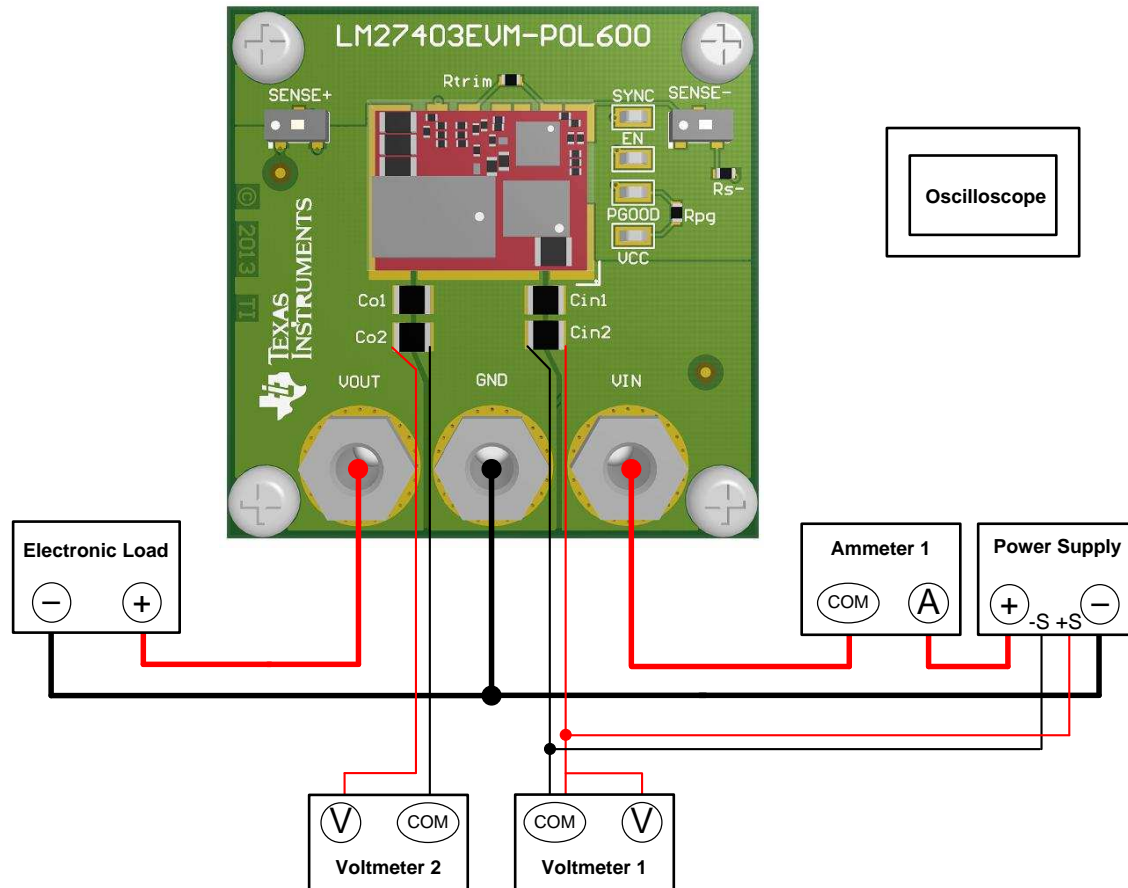

Figure 4. Connection Diagram
Figure 4 shows the recommended test setup to evaluate the LM27403EVM-POL600. Working at an ESD workstation, make sure that any wrist straps, boot straps or mats are connected referencing the user to earth ground before power is applied to the EVM.
- Prior to connecting the DC input source, it is advisable to limit the source current to 10 A maximum. Make sure the input source is initially set to 0 V and connected to VIN and GND banana connections as shown in Figure 4. An additional high-ESR electrolytic input capacitor may be required if long input lines are used.